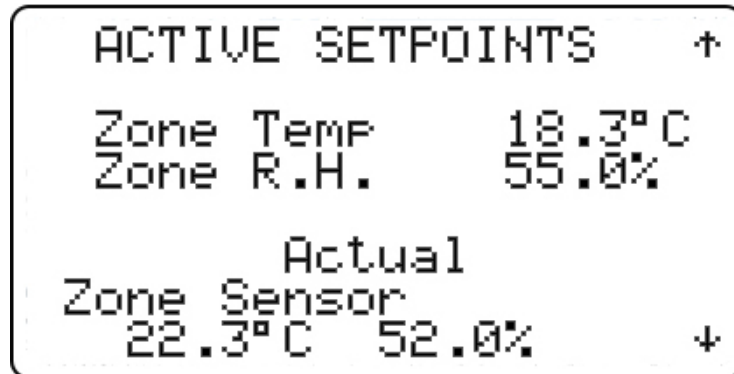

Figure 4
4.2 Zone Setpoints (Figure 4)
Pressing the **Prg** key from the Home Screen displays the ACTIVE SETPOINTS (Figure 4). This menu displays the current temperature and humidity setpoints specific to the unit. The setpoints displayed are from one of the following options; the standard setpoints adjustable in the unit, the setpoints from a Lead Unit, or the setpoints from a BMS network. If the unit is a DriCure unit, the setpoints may also come from the DriCure schedule.